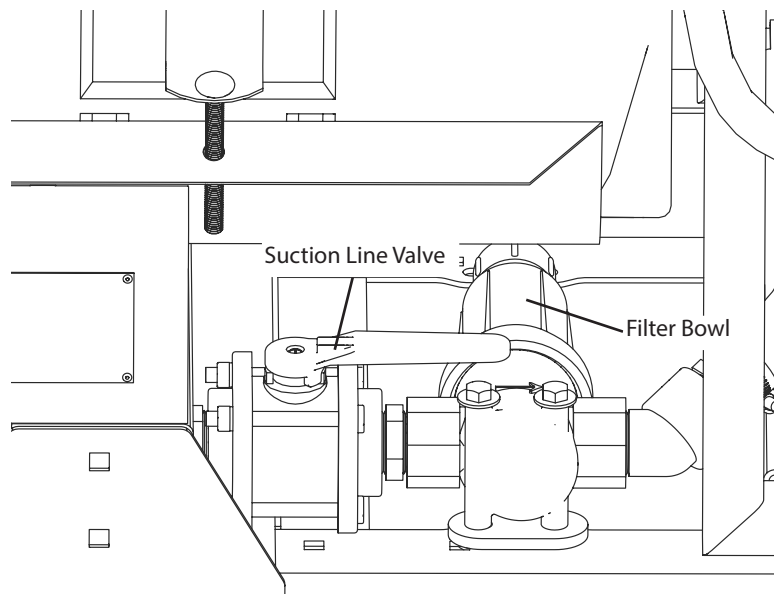

Figure 3: Suction Line Valve
7. Open the suction line valve (Figure 3) located on the side of the frame between the tank and the pump.
2. After filling the tank, open the suction line valve (Figure 3, Page 10) located underneath the tank.